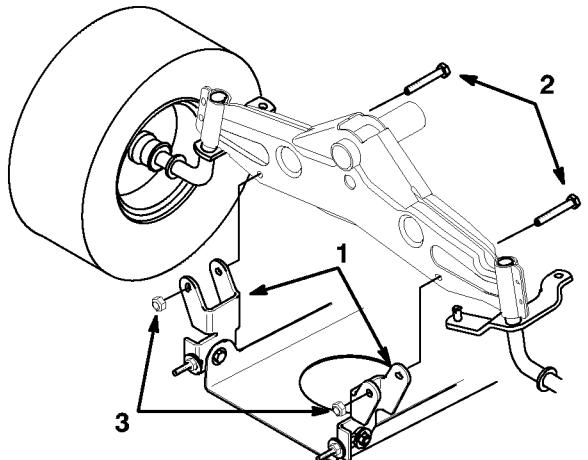

Figure 41
- Remove the bolts and lock nuts and pull the two mower pivot mount brackets down from the front axle (Fig. 41).